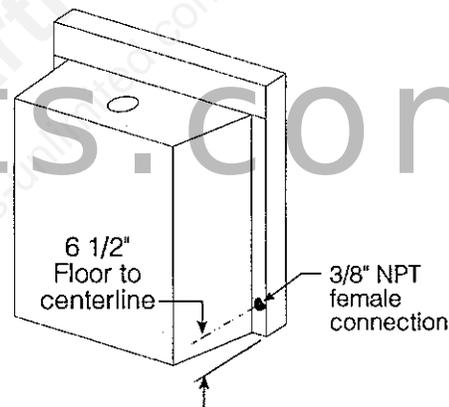

FIGURE 23. The gas connection on the left side of the DV40.
1. The main gas supply inlet is behind the fireplace face on the left as you face the unit. Connect the female inlet pipe to a 3/8" NPT male connector. Figure 23. Install a 1/8-inch NPT plugged tapping, accessible for test gauge connection, on the inlet gas connection.